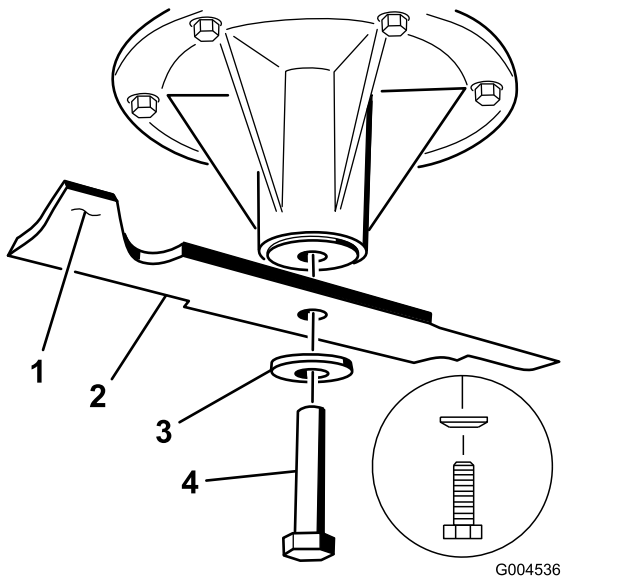

Figure 99
2. Remove the blade bolt, the curved washer, and the blade from the spindle shaft (Figure 99).